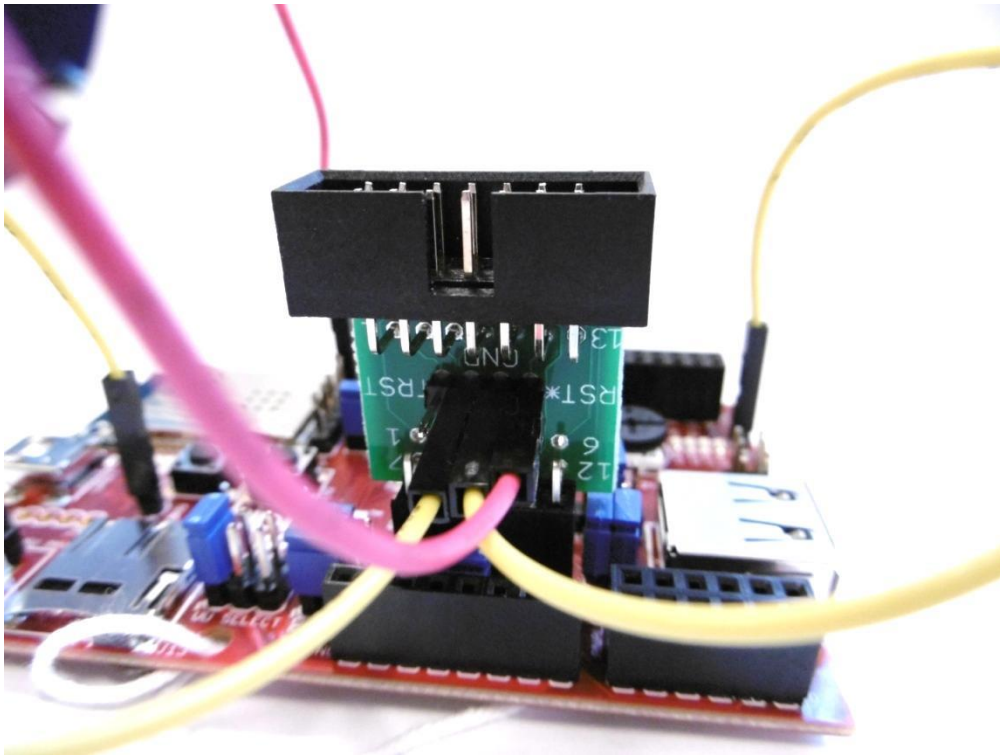

Figure 2 - EJTAG Adapter Board
1. Connect the adapter board to the 6-pin JTAG connector JP3 on the Wi-FIRE board as shown in Figure 2.